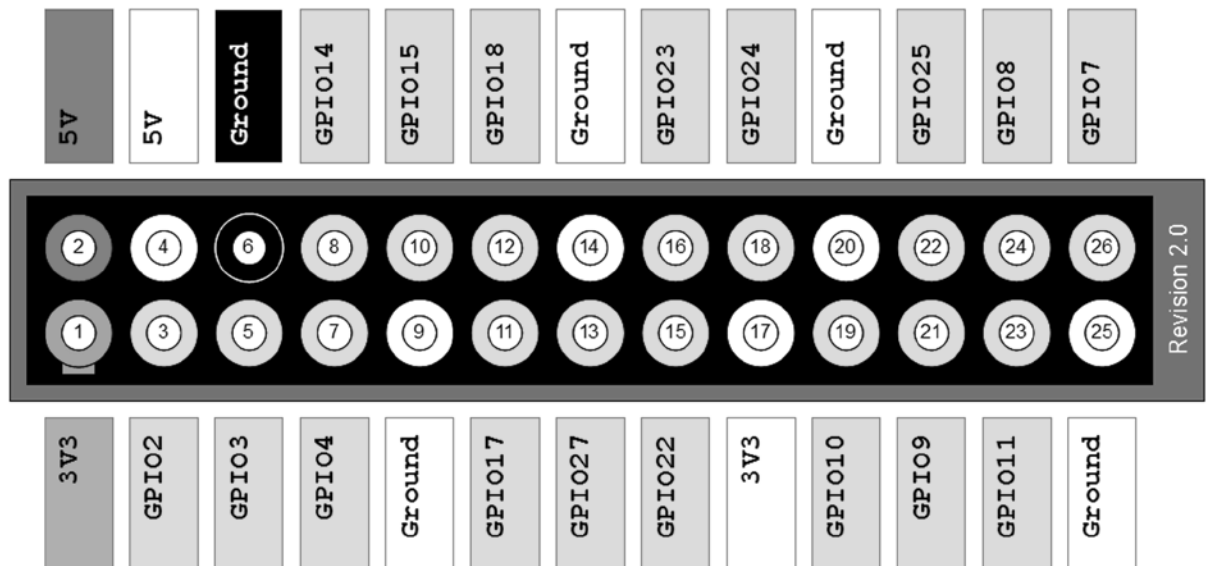

Figure 12-1. The GPIO pinout diagram
which lets you identify the pins as they are labeled on a standard pinout diagram, as shown in Figure 12-1.
■ **Note** Keep in mind that with `GPIO.setmode(GPIO.BOARD)`, when you refer to pin 11, you're actually referring to the physical pin #11 (which translates to GPIO17 in the diagram in Figure 12-1), *not* GPIO11, which translates to the physical pin #23.